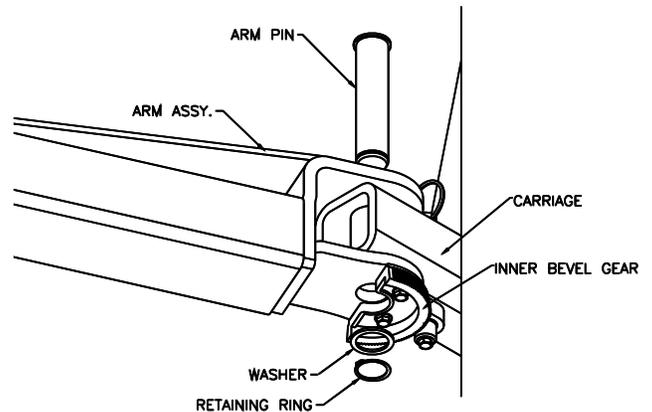

Fig 24 –Arm Pin Keeper Install
- 83) Install the provided retaining ring onto the pin with tool, **Fig 24.**